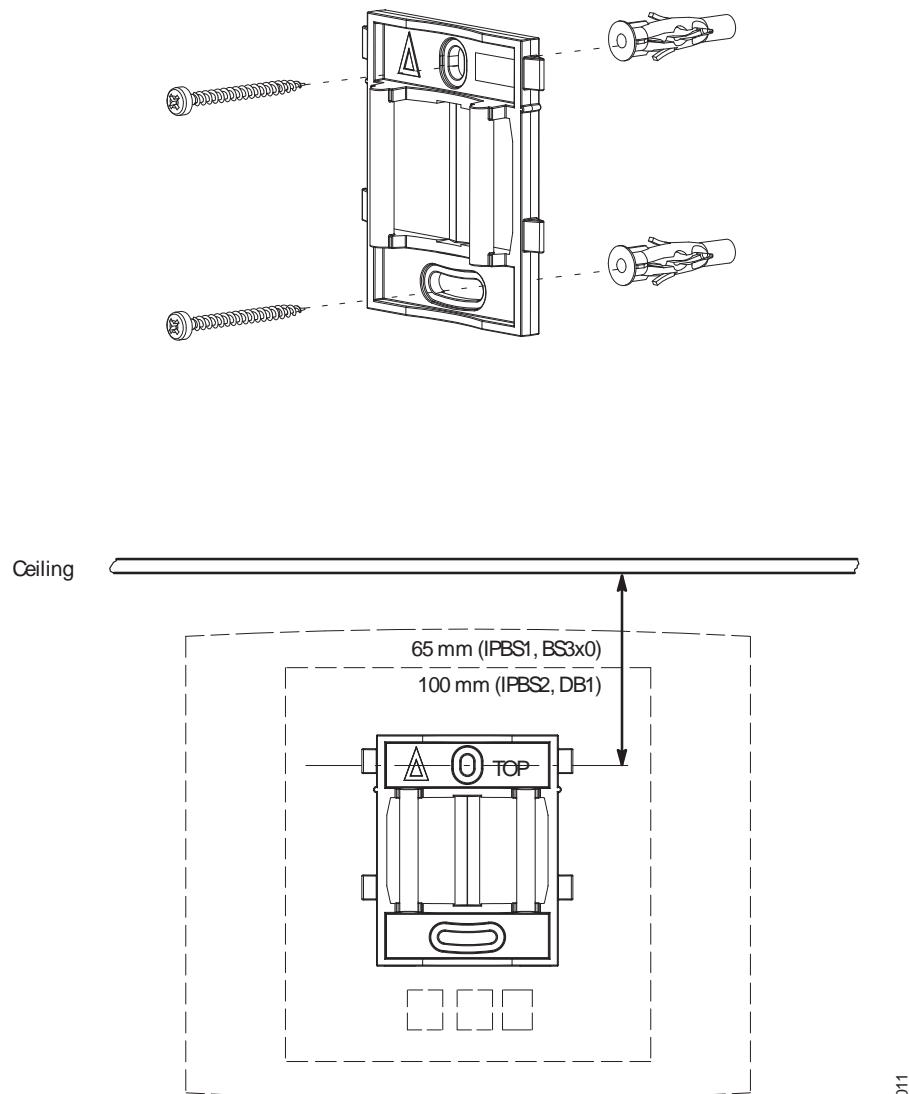

Figure 8. Fixing the mounting bracket to a wall.
Fix the mounting bracket (see figure 8 on page 19) to the wall as follows:
- 1 Hold the mounting bracket with its flat side against the wall with the text 'TOP' upwards and mark the two holes. The minimum distance between the upper hole and the ceiling or any object above the base station must be at least 65 mm for IPBS1/BS3x0 and 100 mm for IPBS2/DB1, see figure 8 on page 19. If the distance is less than 65/100 mm, the base station cannot be slid onto the bracket.